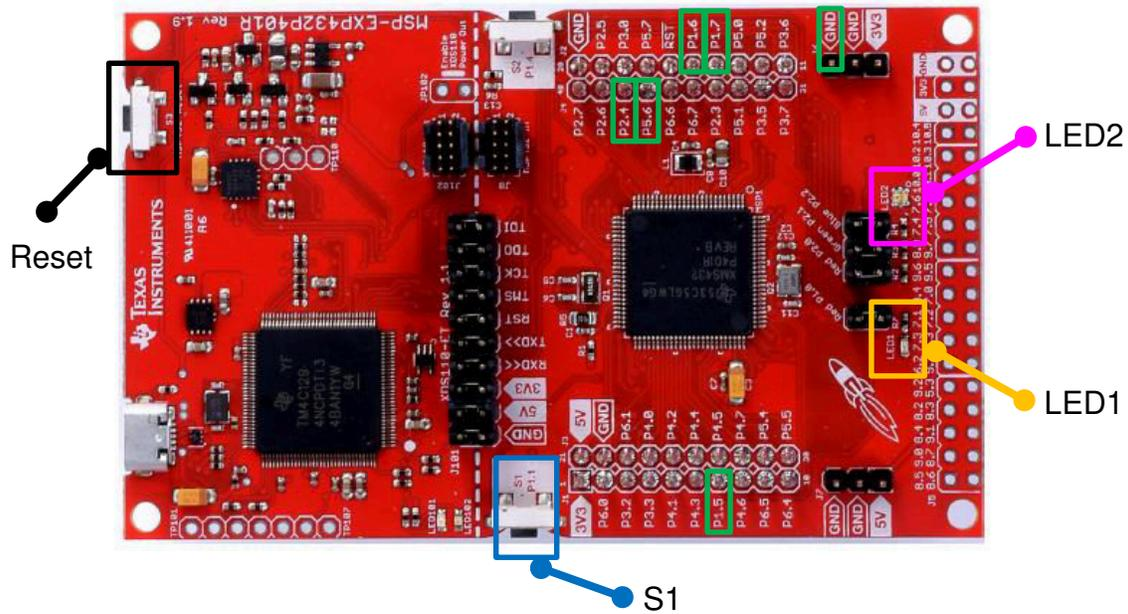

Figure 2-9. Input and Output Interface of MCU Launchpad
Step 1: Power on the DC power supply and reset MSP-EXP432P401 Launchpad. The reset button is shown in Figure 2-9.
Step 2: All white LEDs of TLC6C5748EVM board will be on and LED2 is on with green color if there are no problems. Otherwise, The LED1 and LED2 shown in Figure 2-9 will be on with red, blue or purple color to indicate the specific fault. The control signals of TLC6C5748-Q1 and the meanings of different status of LED1 and LED2 are summarized in Table 3-1. The number of LED short and LED open fault can be read back respectively through expressions in CCS along with the location of fault pins. Please refer to the concrete steps for adding watching expressions in CCS IDE. The meaning of fault data can be found from the comments in User\_Param\_Config.h file in the project of the sample code.
Step 3: Press S1 of MSP-EXP432P401 Launchpad shown in Figure 2-9 will switch the brightness of all The LEDs.